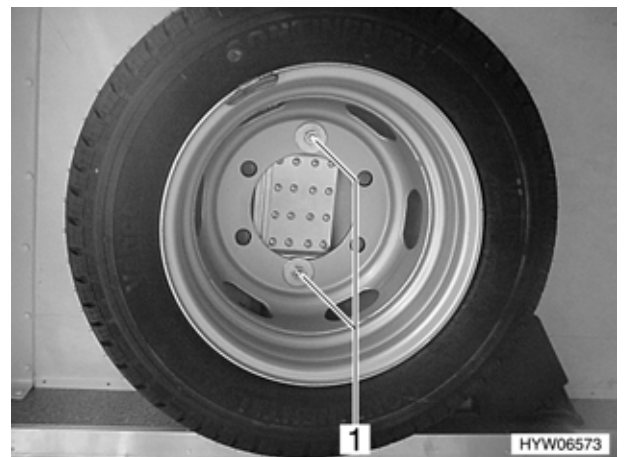

Fig. 177 Spare wheel in the rear storage space (variant 2)
- Use a wheelbrace to undo both bolts (Fig. 177,1).